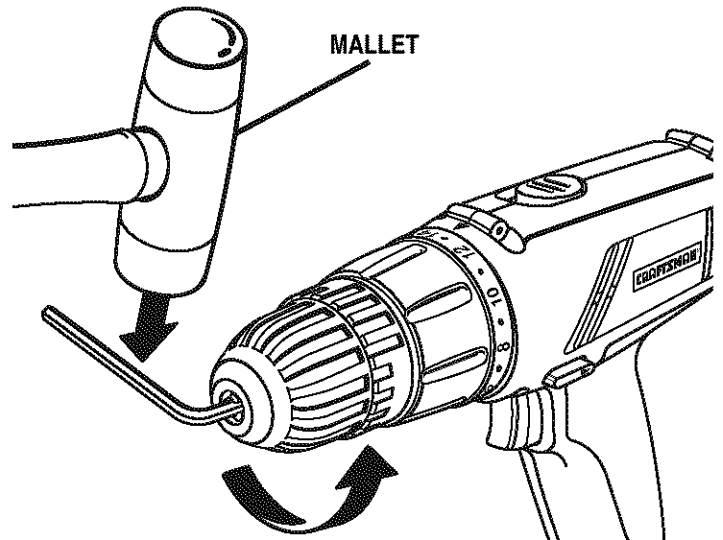

Fig. 15
- Insert hex key in chuck and tighten chuck jaws securely. Tap sharply with a mallet in a counterclockwise direction. This will loosen chuck on the spindle. It can now be unscrewed by hand. See Figure 15.